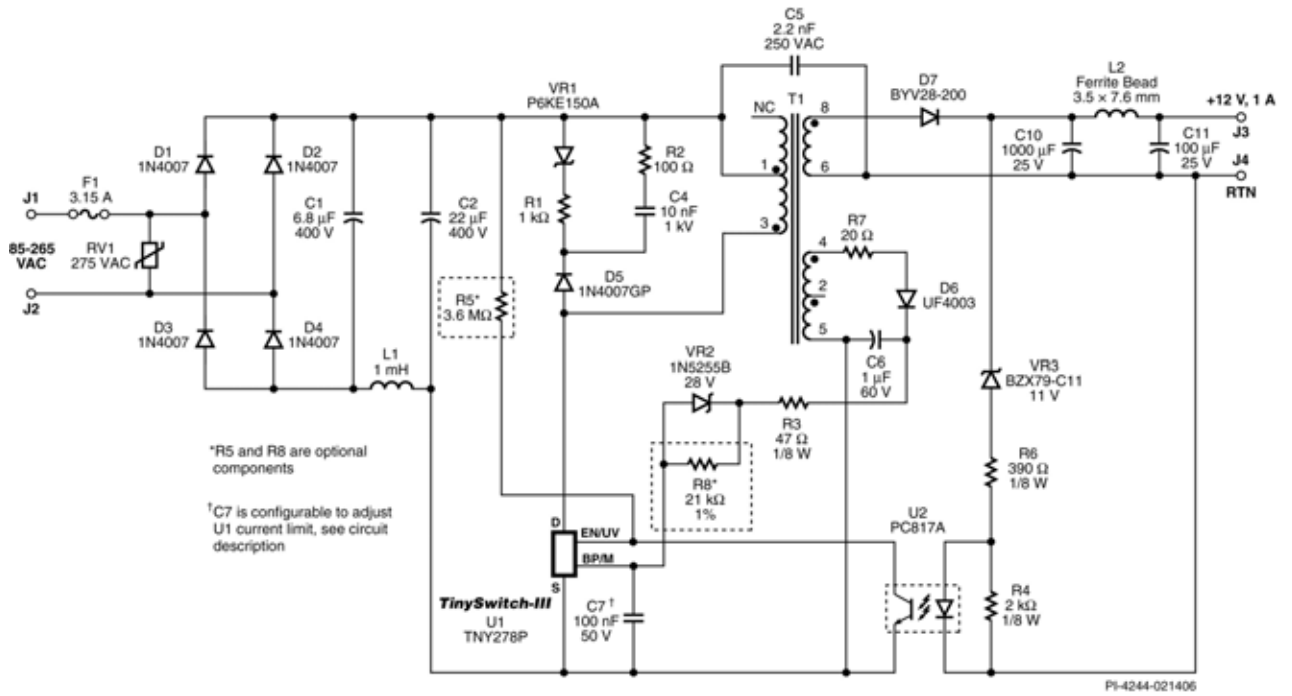

Figure 2 – EP-91 Circuit Diagram.
This flyback power supply was designed around the TNY278P (U1 in Figure 2). The output voltage is sensed and fed back to U1 through optocoupler U2. That feedback is used by U1 to maintain constant voltage (CV) regulation of the output.